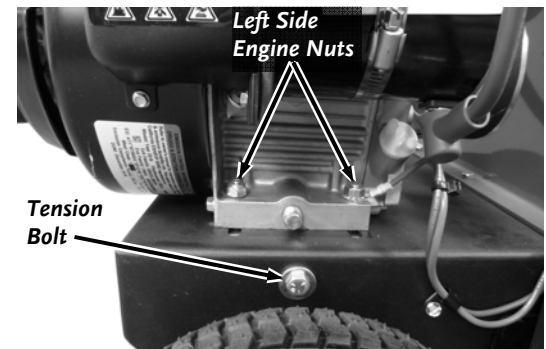

Figure 21
2. Loosen the two, left side Engine Mount Locknuts using a 1/2" Wrench (Figure 21).
4. Loosen the Tension Bolt using a 1/2" Wrench (Figure 21) until the belt can be removed from the Pulleys.